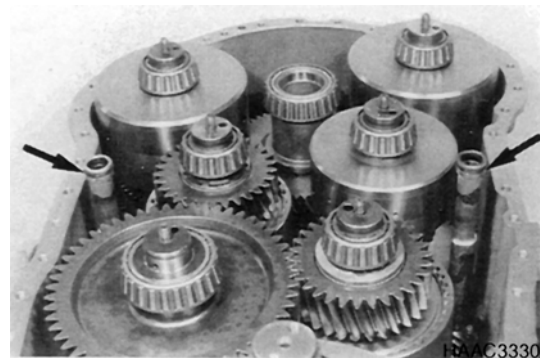

Figure 250
8. Insert both O-rings (Figure 250) into the annular groove of the oil pipes and grease them.